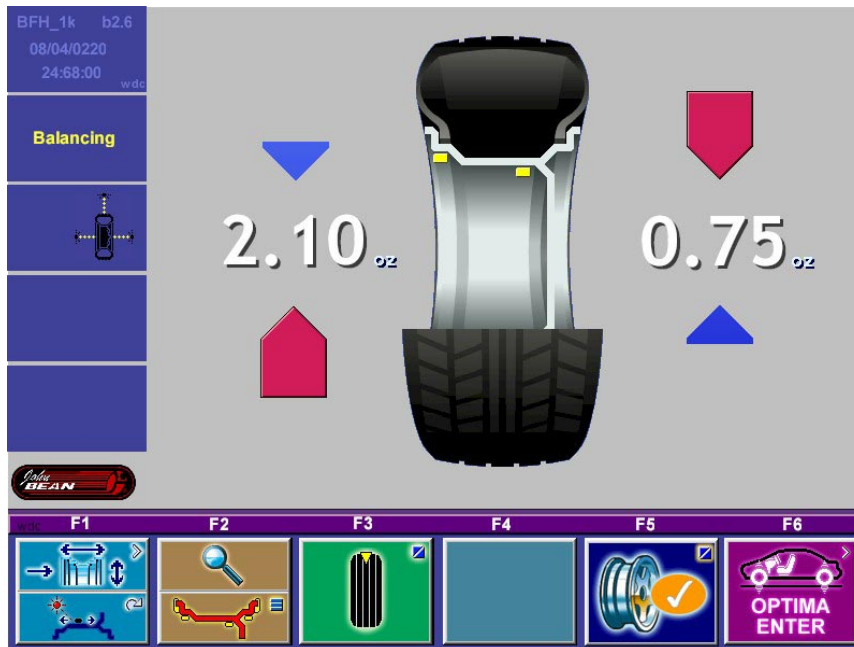

Figure 21
A. 2-Plane - Choose the appropriate balancing mode for the wheel. To select the various **2-plane** weight placement modes press the **Mode** button (Lower part of F2) until the placement graphic indicates desired corrective weight placement position. Press and hold the lower button for 3 seconds goes directly to clip-clip without having to prompt through all the modes. Fig 21